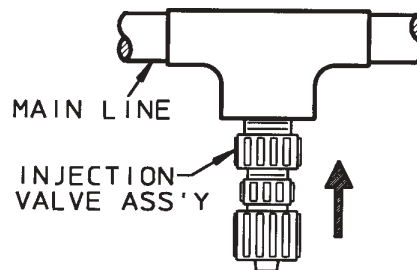

Figure 2.8
- Install the back pressure/injection valve on the discharge side of the metering pump into a tee that is installed into the water line going to the pressure tank. A typical installation is shown in Figure 2.8.